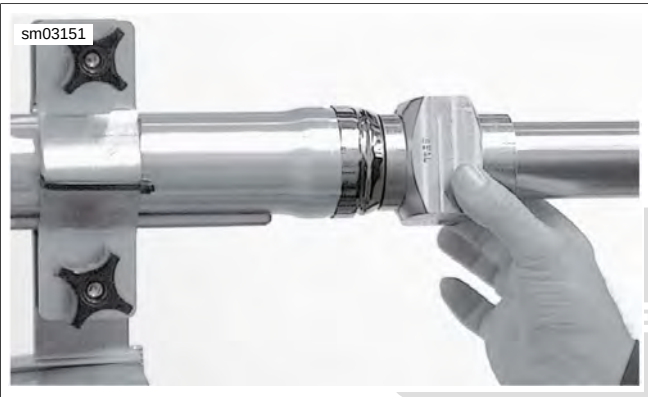

Figure 2-104. Install Chrome Dust Cover
10. See Figure 2-104. Remove fork seal driver, reverse tool to short side of tool to prepare to install chrome dust cover. Rotate slider cover to match any removal burrs in slider and tap chrome dust cover into place.